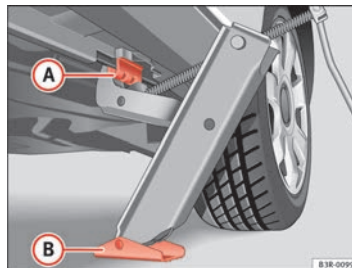

Fig. 197 Changing the wheel: Jack
- Align the jack so that the arm of the jack fits on the rib under the door sill ⇒ **fig. 197 A** and the movable base plate of the jack **B** is flat on the ground.